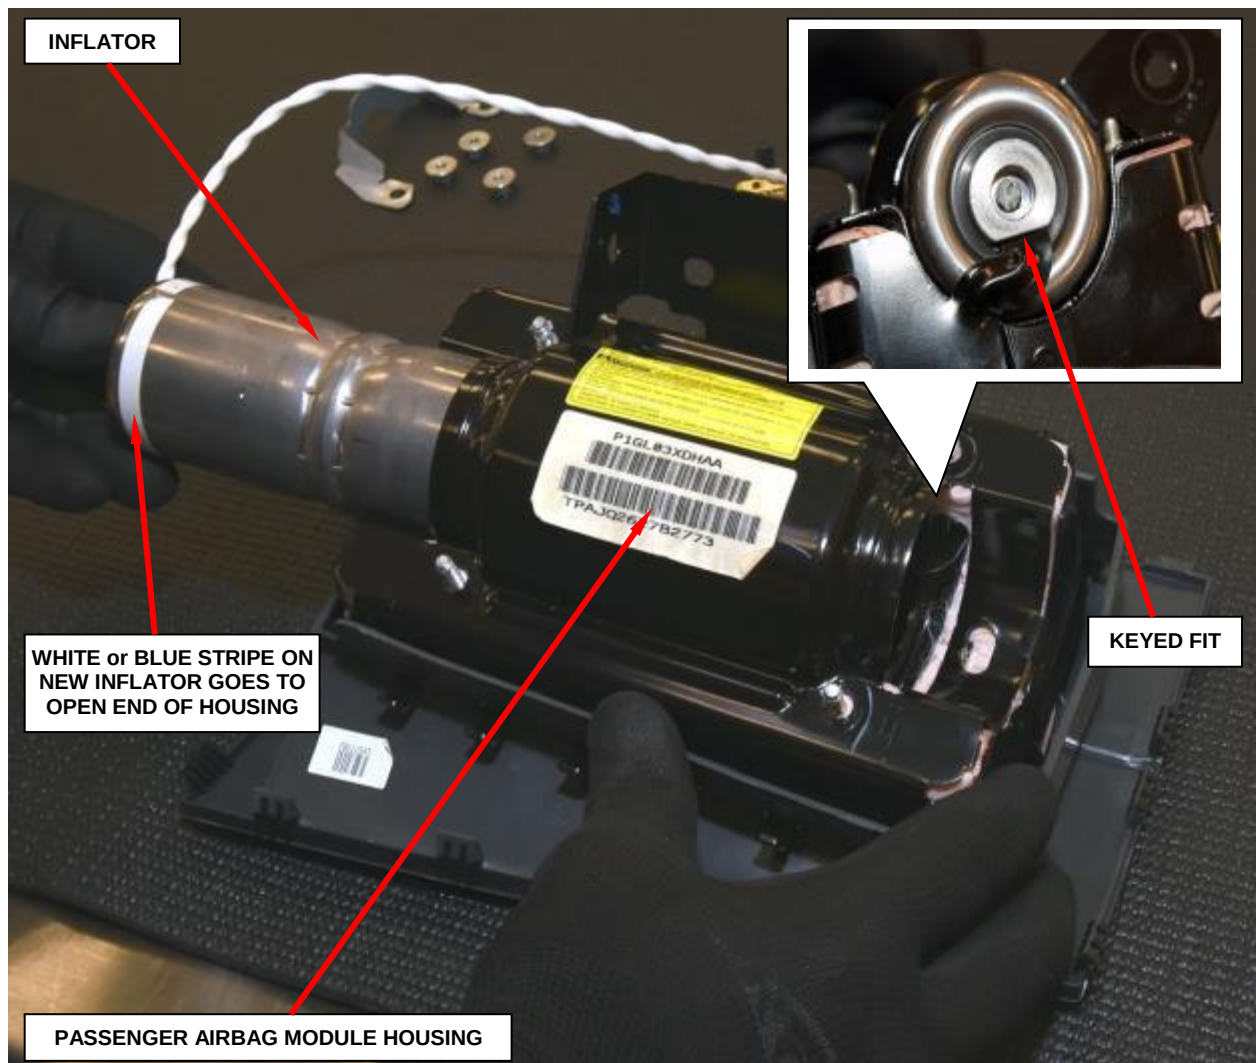

Figure 43 – Passenger Inflator Installation
NOTE: The inflator's key **MUST** line up with the housing's key (Figure 43).
- m. Slide the **NEW** inflator into the passenger airbag module housing. The inflator is keyed to fit into the housing. The keyed end is inserted first; therefore, the white or blue stripe on the **NEW** inflator will be located at the open end (**Figure 43**).